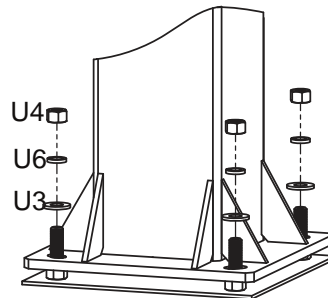
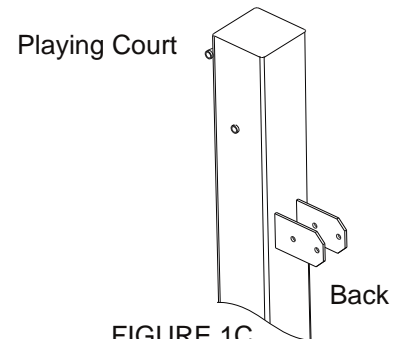

FIGURE 1B
FIGURE 1C
- Remove the Padding from Main Post (A). Place the Main Post (A) over the J-Bolts. Slide a 16mm Thick Washer (U3), a Lock washer 18mm (U6) and thread a 18mm Hex Nut (U4) to each J-bolt. Tighten the Nuts only a few turns onto the J-Bolts as shown in FIGURE 1B.
- If the Main Post (A) is not exactly vertical, adjust the 16mm J-Bolt Hex Nuts (U4) located under the Post base. Tighten all of the Hex Nuts (U4) Above Post base when Main Post (A) is vertical.
*NOTE: Face the Main Post (A) with Actuator Bracket facing away from playing court (as shown in FIGURE 1C).*